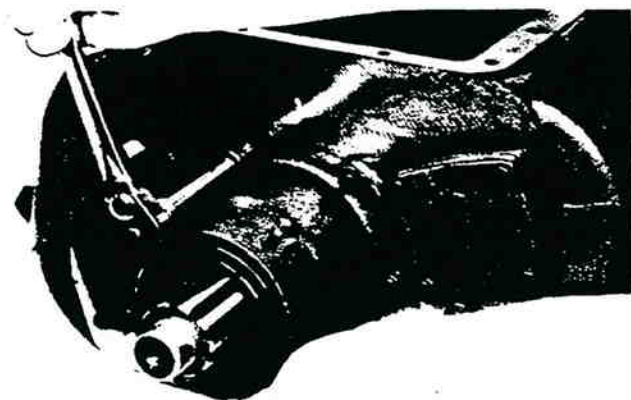

Figure 13-165. Installing Capscrews.
3. Install attaching capscrews, tighten evenly and securely (figure 13-165).